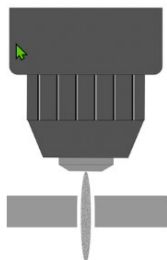

Fig. 8
1. Correct torch height and square to the material. Minimum bevel & equal bevel. Longest consumable life (Fig. 8).